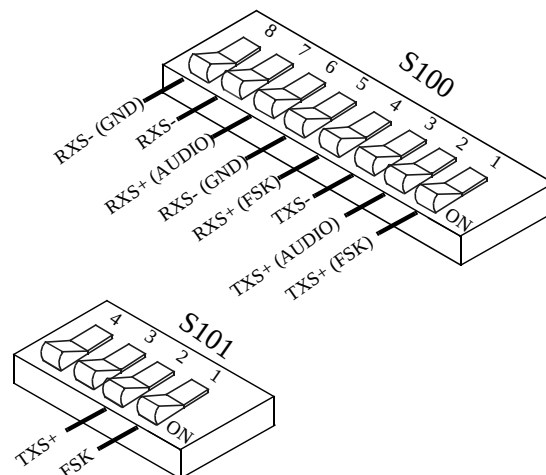

Figure 7-9 S100 SETTING
- On the MAC**, set S100 and S101, all Sections OFF (see Figure 7-9).